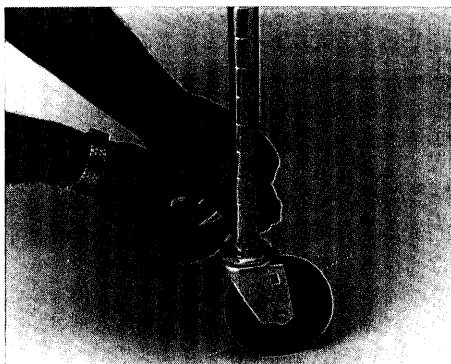

Fig. 3
4. Take four pair of split sleeves and place one pair on the first groove up from the bottom of each post (Fig. 3). Make certain that the bead of the split sleeves fits securely into the groove of the posts.